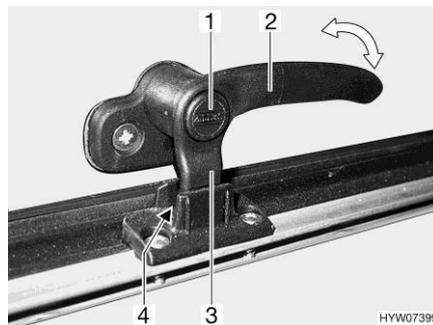
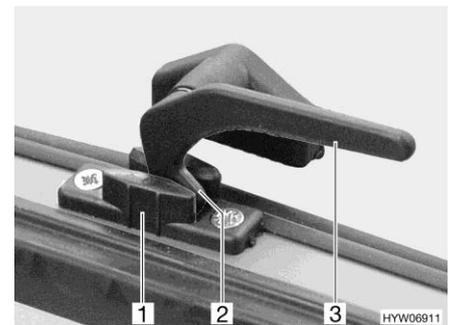

Fig. 71 Catch lever with safety knob in "continuous ventilation" position
Fig. 72 Catch lever in "continuous ventilation" position
- "Continuous ventilation" (Fig. 71 and Fig. 72)
- Press and hold the security button (Fig. 71,1), if present.
- Turn all catch levers (Fig. 71,2 or Fig. 72,3) a quarter turn towards the centre of the skylight.
- Return all catch levers to their initial position. The locking catch (Fig. 71,3 or Fig. 72,2) has to be moved into the recess of the skylight lock (Fig. 71,4 or Fig. 72,1).